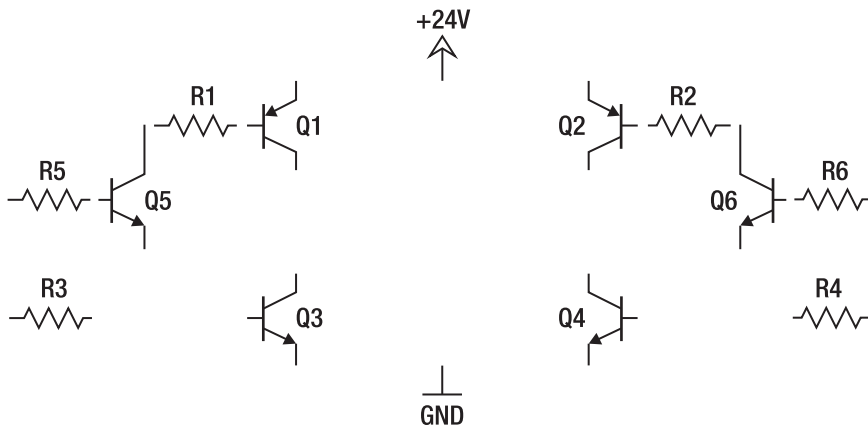

Figure 6-4. The current-limiting bias resistors are added to each transistor in the schematic, represented by components R1 through R6.
4. **Add resistors:** These resistors are used to limit the amount of current allowed to each transistor, so we will place one in front of each transistor base pin (the middle pin, as shown in Figure 6-4). The datasheet for the 2n2222 NPN transistor recommends between 1mA and 10mA of current to be applied to the base pin to get the most efficient current gain. To do this using the +5v produced from each Arduino output pin, we will use standard 1k-ohm resistors that will provide 5mA to each transistor base pin (Ohm's law).